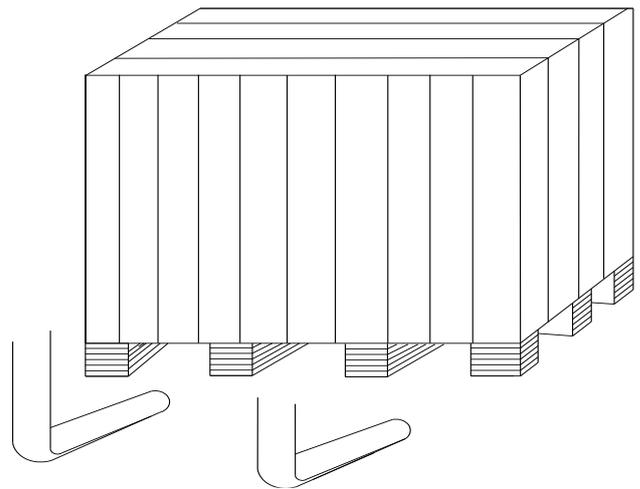

Fig 4
4.1.1 After being sure that the package of your machine is perfect, you can carry the wheel balancer to the installation site.(Fig4). The choice of the installation should comply with the following requirements. The ambient temperature is 0°C-50°C and the RH ≤85%.